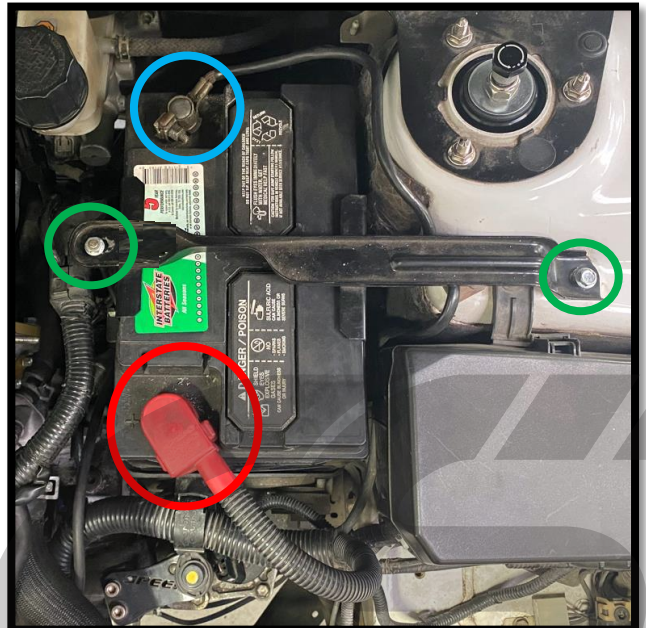

Figure 4a
- a) **Locate your battery in the rear right of the engine bay and disconnect the battery terminals with a 10mm wrench.** Disconnect negative first, shown **circled in blue** in **Figure 4a**, then disconnect the positive, shown **circled in red** in **Figure 4a**. Move the terminals out of the way.
- b) **Remove the 10mm nut and 10mm bolt from the battery tie down bracket.** Shown **circled in green** in **Figure 4a**. Remove the OEM tie down bracket and long "J" shaped bolt.